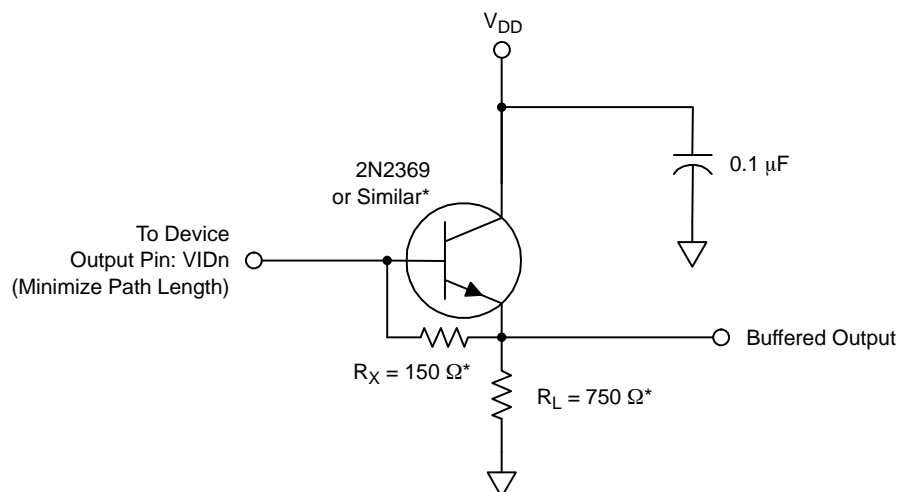

Figure 14. Typical Output Bias/Buffer Circuit
1. A current sink must be supplied for each output. Load capacitance should be minimized so as not to limit bandwidth. RX serves as the load bias for the on-chip amplifiers. The values of RX and RL should be chosen to optimize performance for a given operating frequency. The values shown in Figure 14 below represent just one solution.